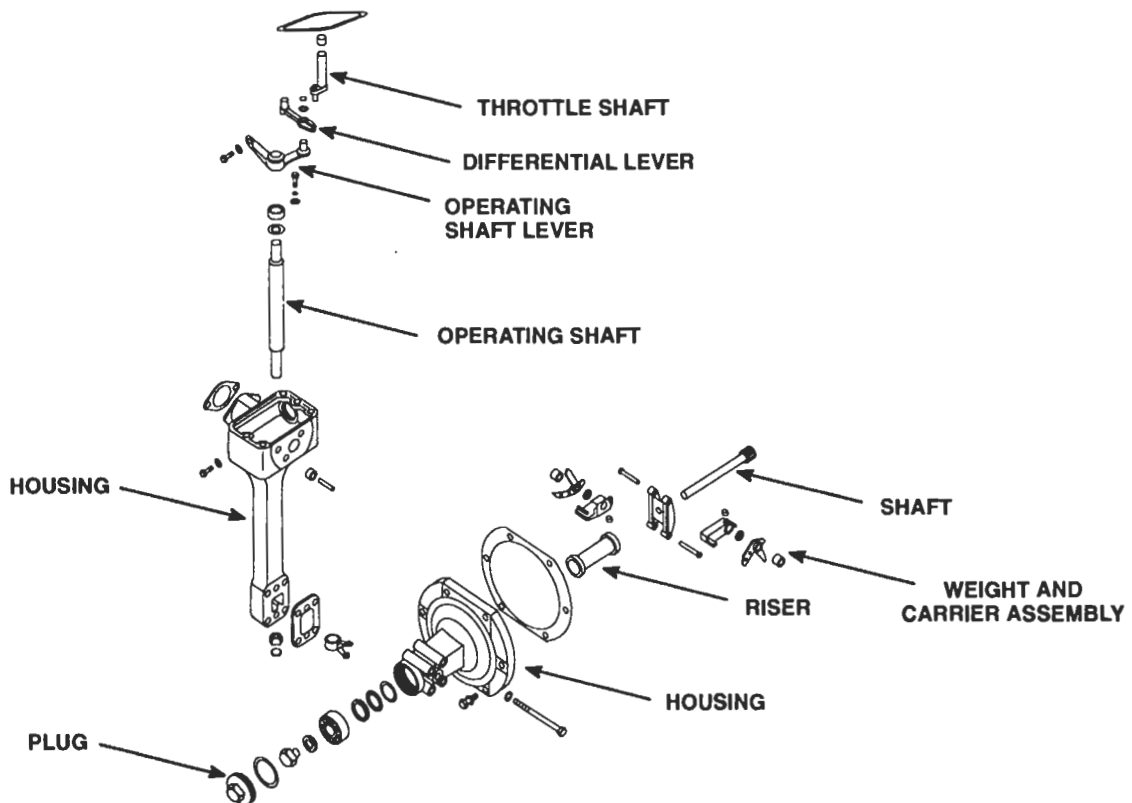

Figure 5. Exploded View of Governor Control and Weight Housing
1. Place the weight housing in a soft jawed vise. Remove the plug and gasket (Figure 5.)